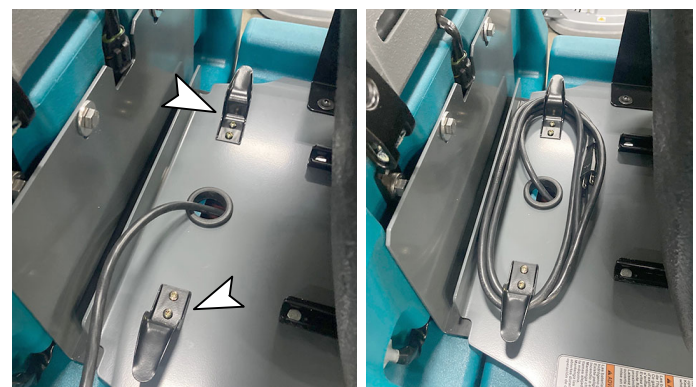
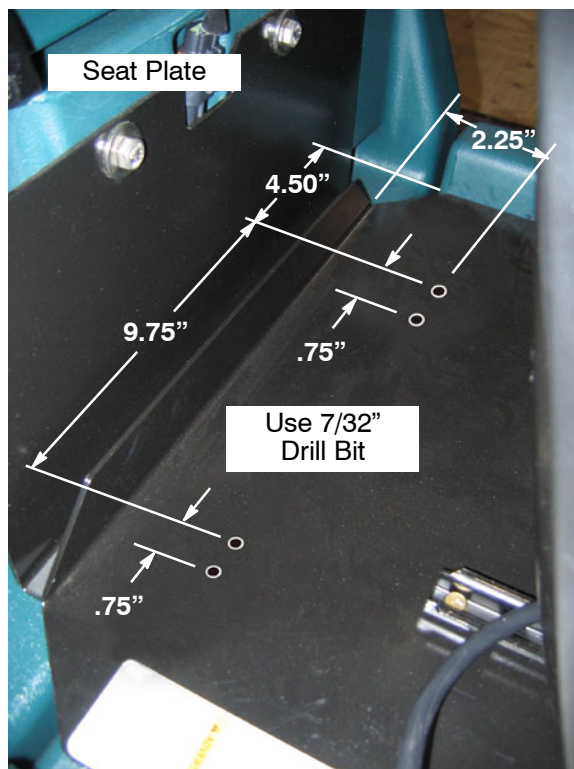

Fig. 11
Fig. 12
16. Mount the cord hooks to the seat plate as shown, using hardware provided. Coil power cord around hooks as shown (Figure 11). See Figure 12 if seat plate is not equipped with pre-drilled holes to mount hooks.